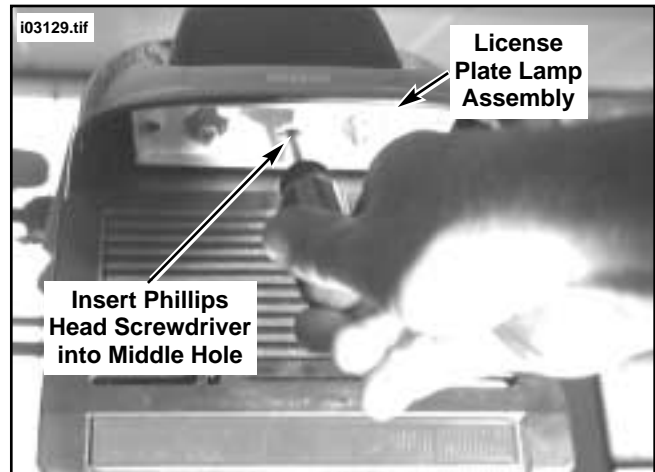
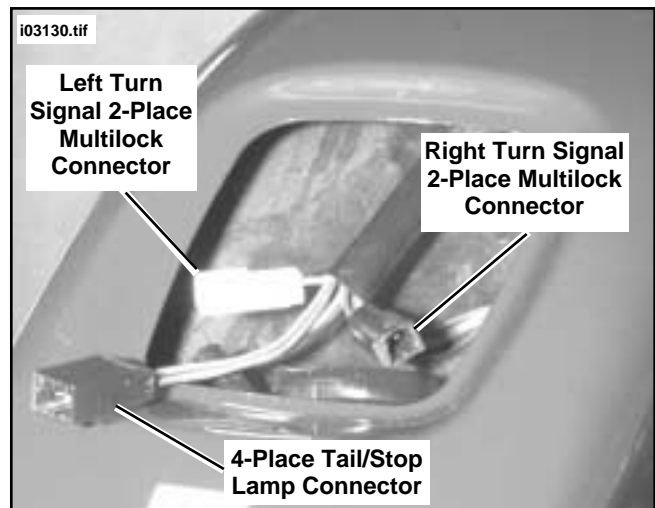

Figure 1. Remove Tail Lamp Assembly
Figure 2. Disconnect Turn Signal Wires
3. See Figure 1. Insert phillips head screwdriver into middle hole of license plate light assembly. Push screwdriver in to disengage tail lamp clip while gently pulling tail lamp out. See Figure 2. Disconnect tail lamp wiring (4-place Multilock) at tail lamp connector.
4. See Figure 2. Disconnect left (White, 2-place Multilock) and right (Black, 2-place Multilock) turn signals by depressing button on socket terminal side of connector and pulling apart pin and socket halves.